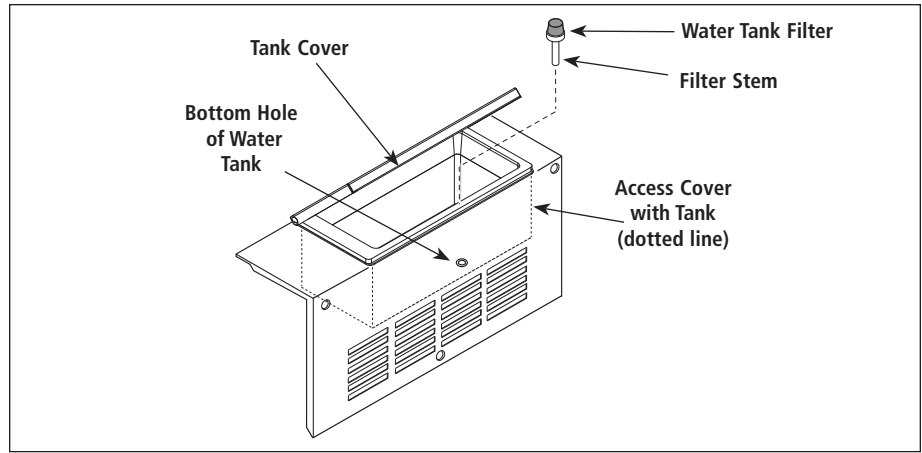

Figure 6. Water Tank Filter
6. Use a scraper or spatula to remove the excessive calcium/mineral buildup from the generator surface (Figure 6).
2. Open the slide door (Figure 6).
5. Reinstall the filter stem into the bottom hole of the tank (Figure 6).